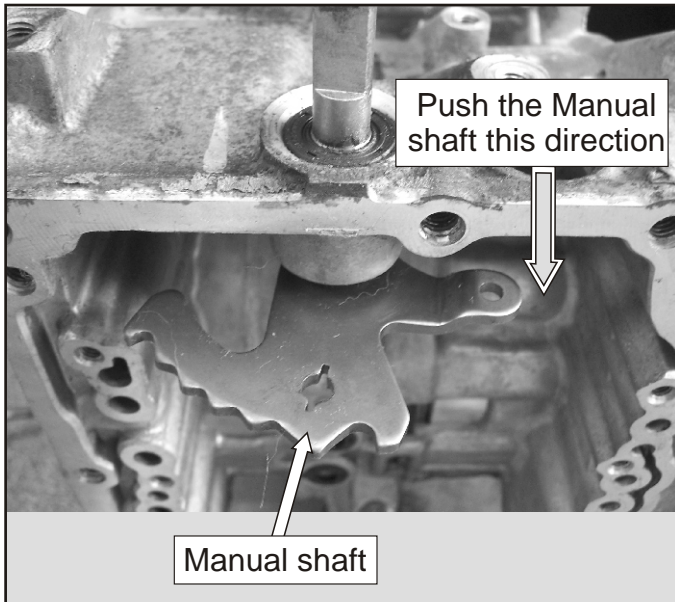

Figure 94
43. Push the manual shaft down thru the case to remove it as shown in Figure 94.